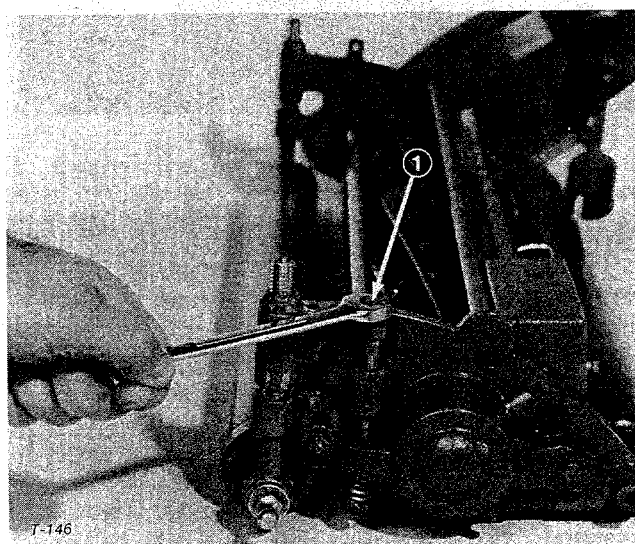

Figure 28
2. Adjust reel to knife clearance with adjusting screws at each end of unit (Fig. 28). **NEVER ALLOW BEDKNIFE TO BEAR HEAVILY AGAINST REEL.**